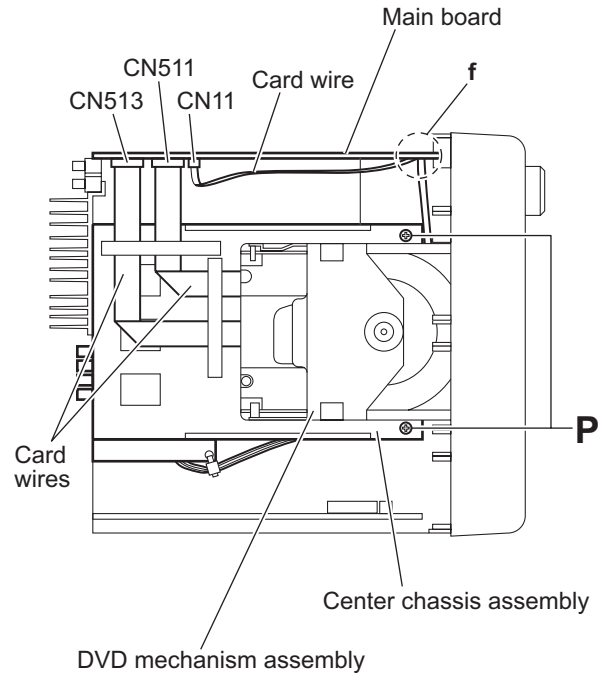

Fig.16
3.1.8 Removing the center chassis assembly (See Fig.16)